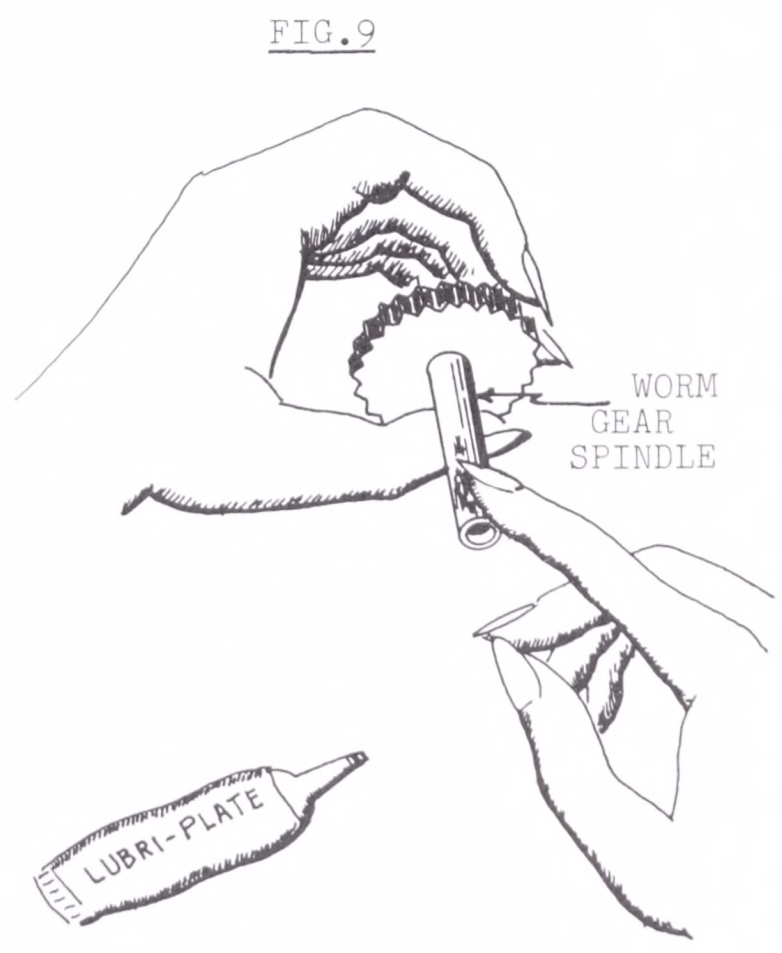

FIG. 9
7. Before installing new replacement worm gears, apply a light coat of grease to the gear spindles with fingertip. (*Figure 9*)